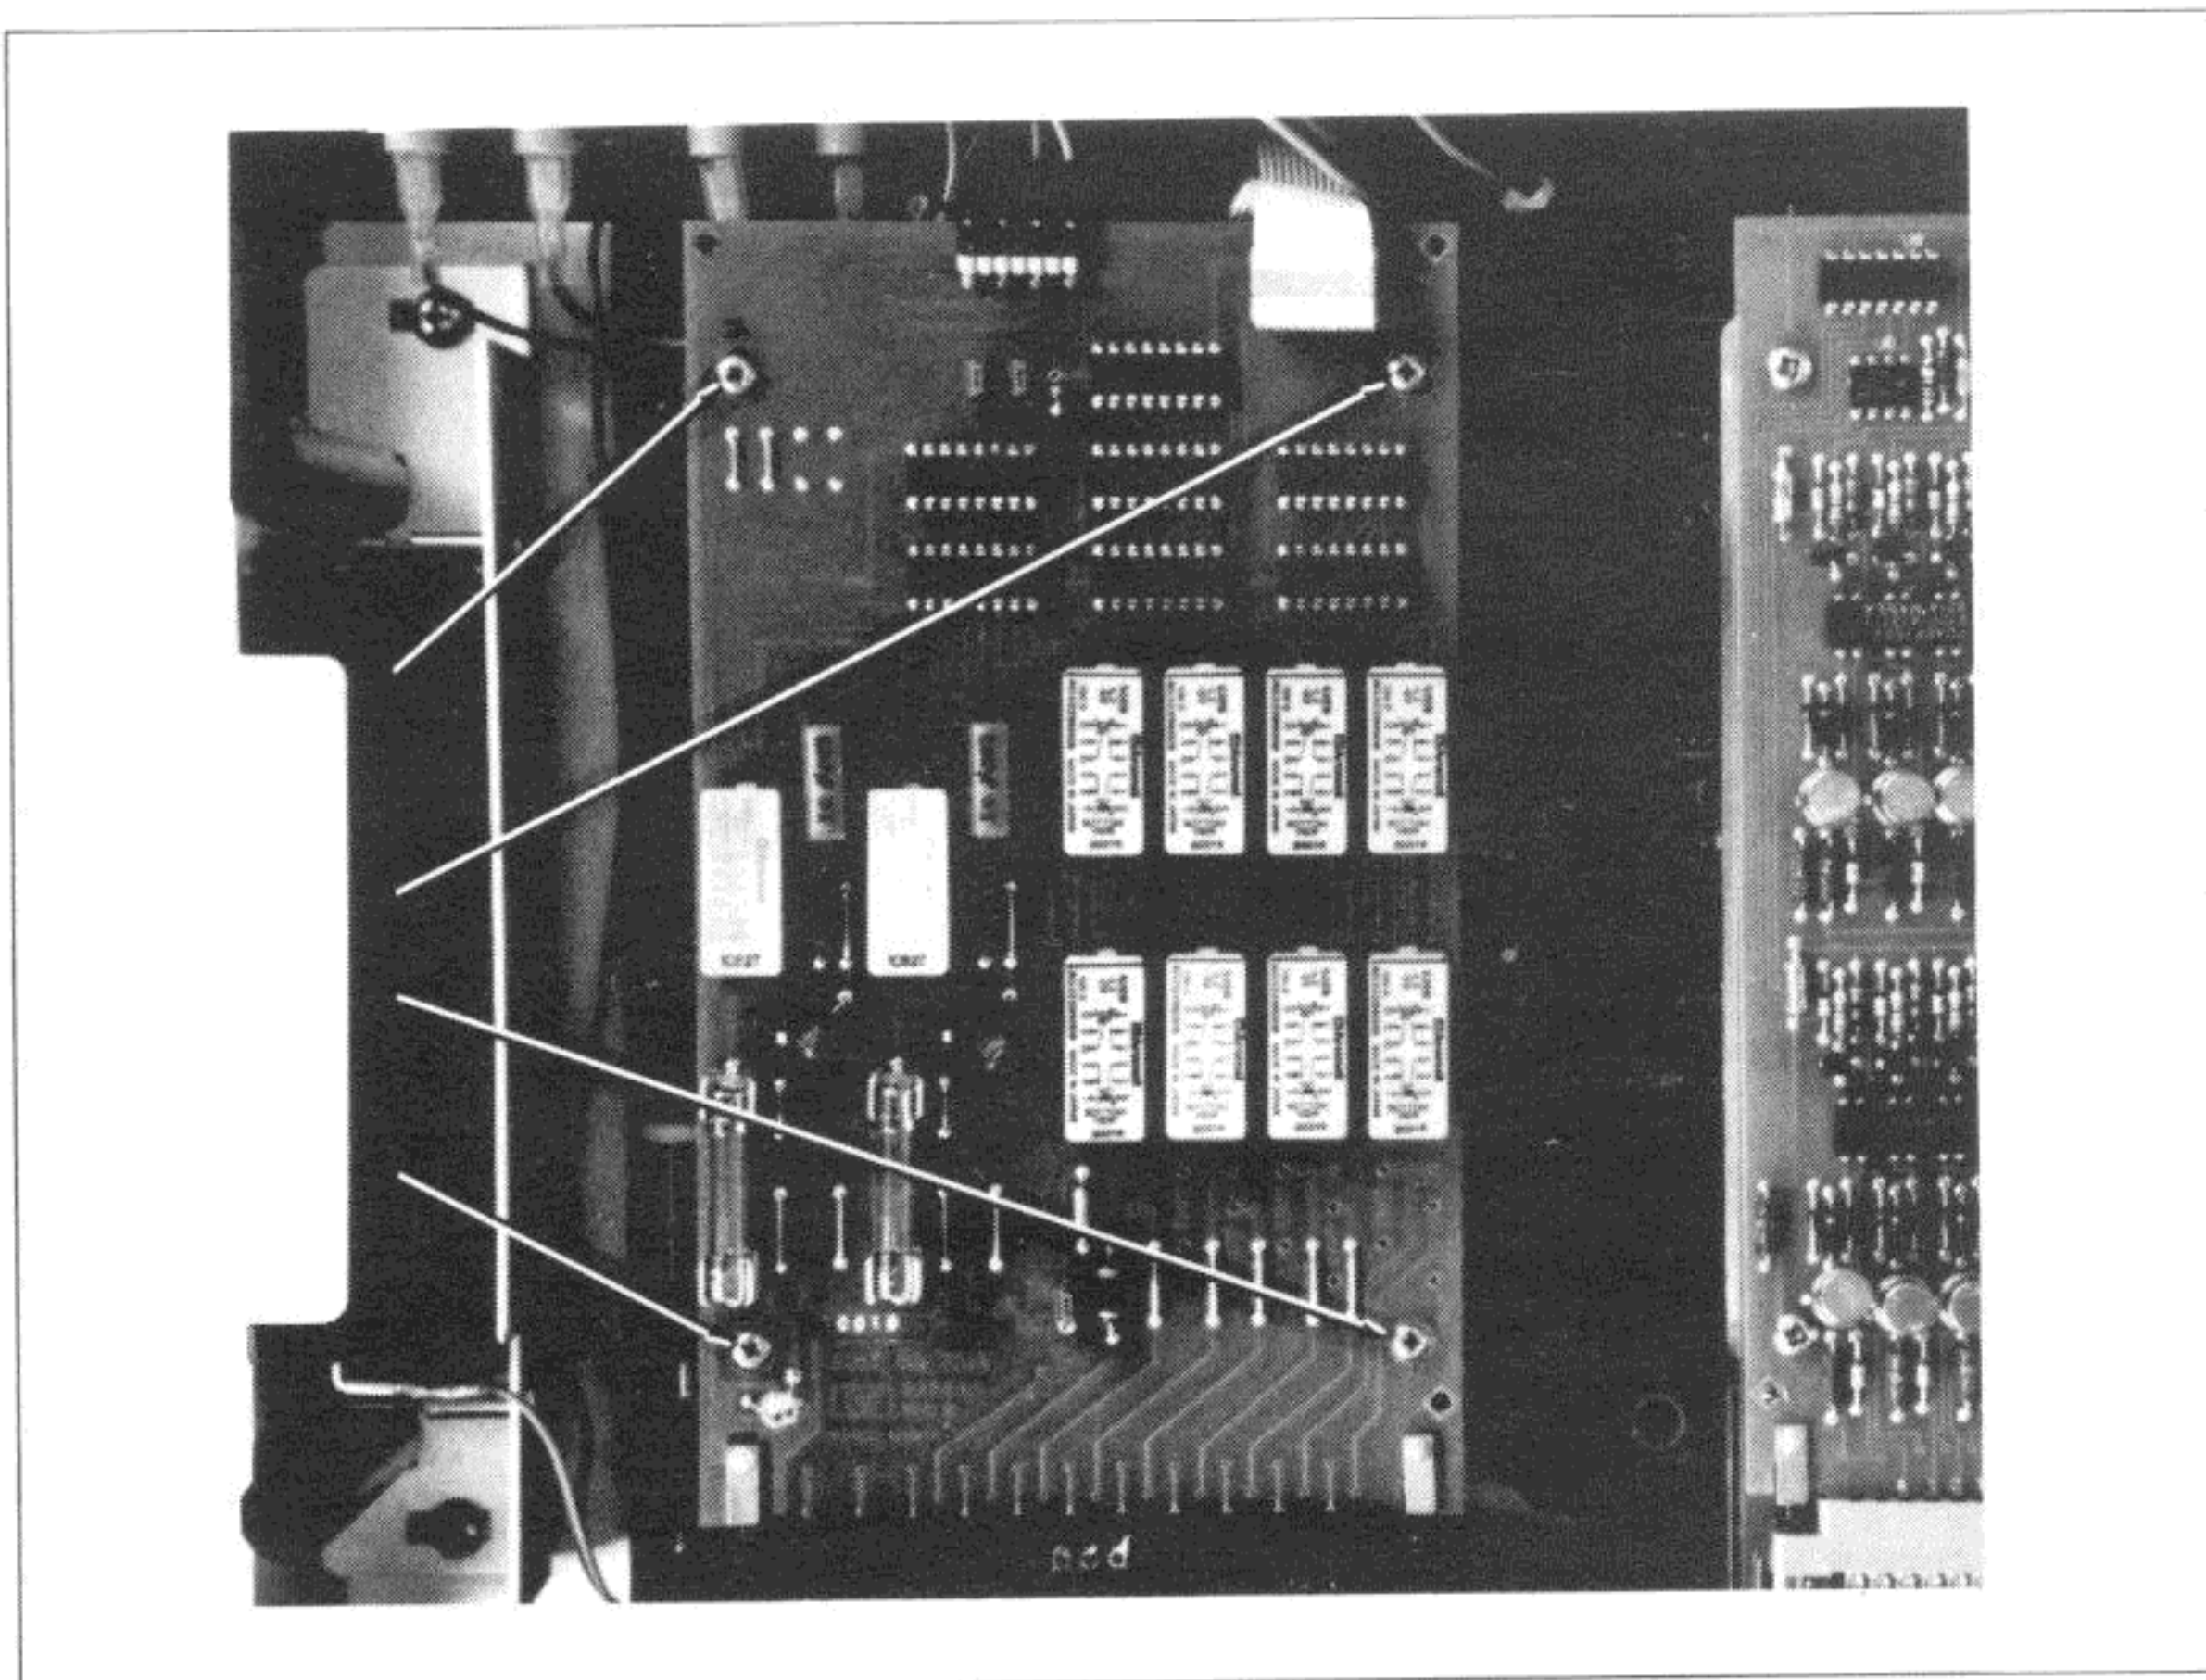

Figure 1-8-8. Removing Hex Screw Standoffs
j. Using a 7/32" wrench, remove the four hex screws standoffs as shown in Figure 1-8-8.